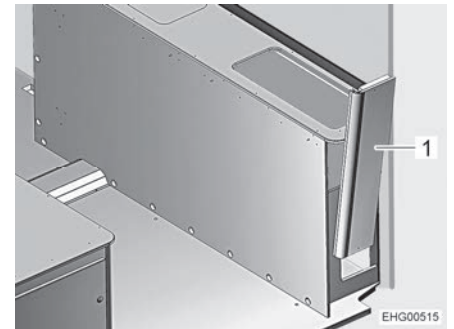

Fig. 124 Bedding box on the right, side wall
- Remove the side wall (Fig. 124,1) upwards with light shaking movements.